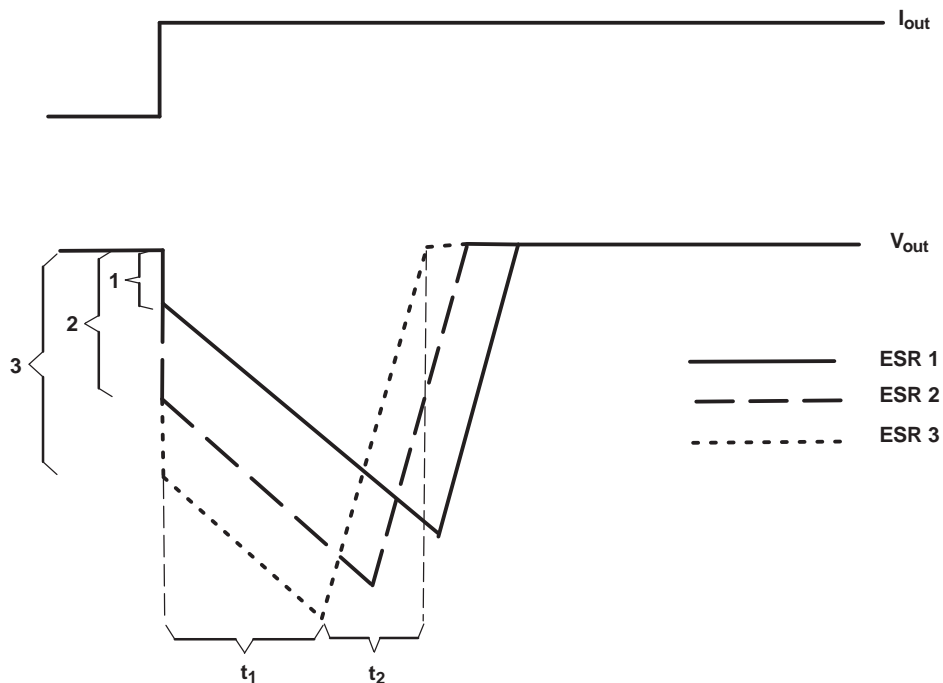

Figure 23. Correlation of Different ESRs and Their Influence to the Regulation of  $V_{out}$  at a Load Step From Low-to-High Output Current
- The LDO is not able to supply the sudden current need due to its response time ( $t_1$  in Figure 23). Therefore, capacitor  $C_{out}$  provides the current for the new load condition (dashed arrow).  $C_{out}$  now acts like a battery with an internal resistance, ESR. Depending on the current demand at the output, a voltage drop will occur at  $R_{ESR}$ . This voltage is shown as  $V_{ESR}$  in Figure 22.
- When  $C_{out}$  is conducting current to the load, initial voltage at the load is  $V_{out} = V_{C_{out}} - V_{ESR}$ . Due to the discharge of  $C_{out}$ , the output voltage  $V_{out}$  drops continuously until the response time  $t_1$  of the LDO is reached and the LDO resumes supplying the load. From this point, the output voltage starts rising again until it reaches the regulated voltage. This period is shown as  $t_2$  in Figure 23.